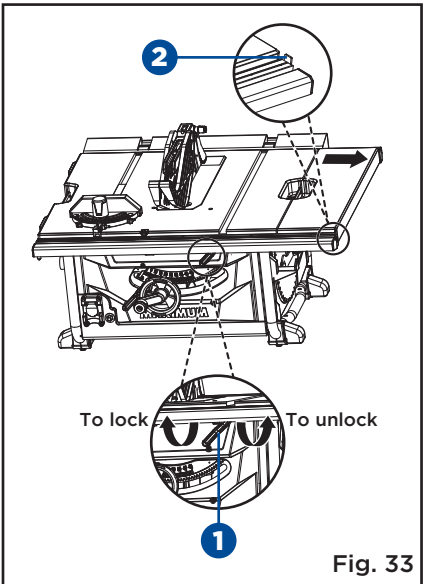

Fig. 33
USING THE SLIDING TABLE EXTENSION (Fig. 33)
- Rapidly set the rip fence to 14" (355.6 mm) on the right rail with rapid position block (2) (See Fig. 33) and to more easily read the extended length.